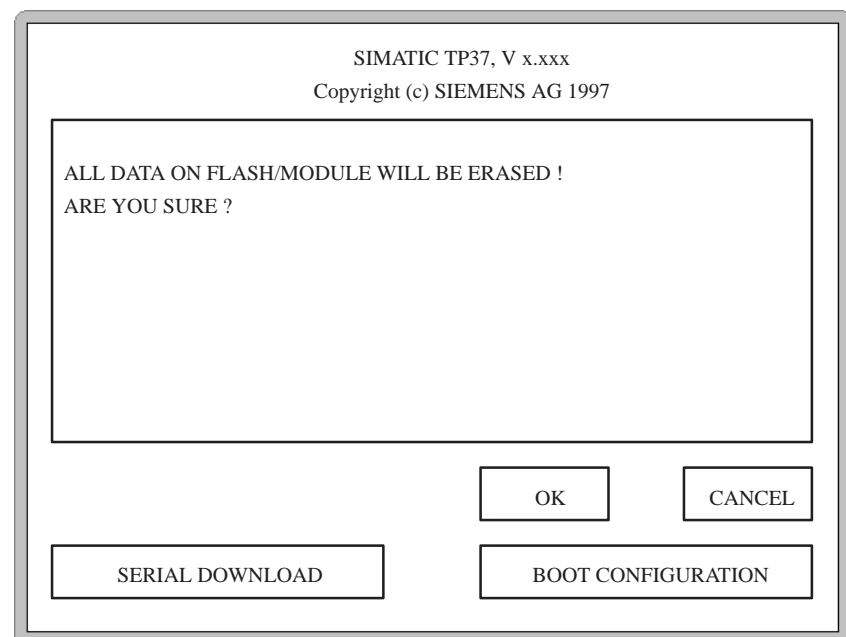

Figure 9-1 Settings in the startup phase (example: clear flash memory)
1. Touch the top left corner of the screen as the Touch Panel is starting up. The menu illustrated in figure 9-1 appears with the first confirmation request.